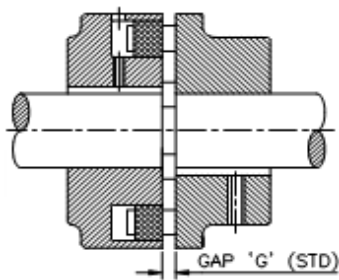

Fig.3.1
- Bring both the hubs closer to maintain gap 'G'(Table 2) as shown in fig. 3.1.